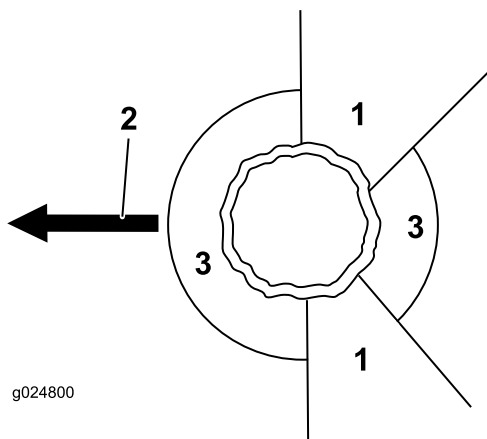

Figure 15
- Determine a clear, safe retreat path away from the danger area; refer to Figure 15.